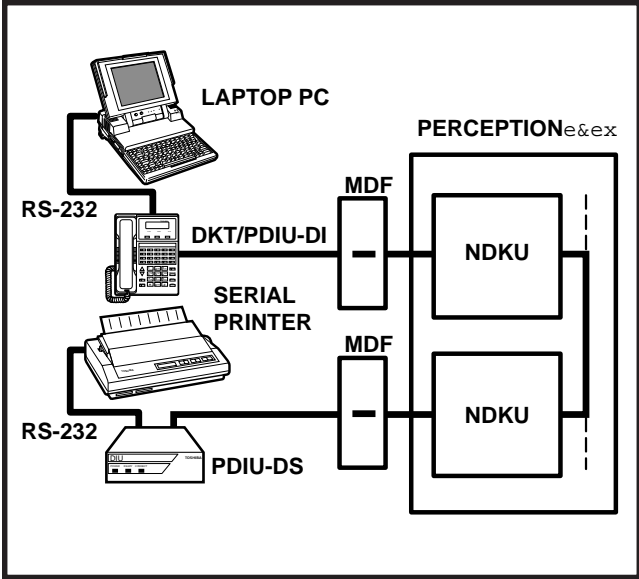

FIGURE 4-63
- Figure 4-63—PC to Printer Test Call Using Manual Dialing